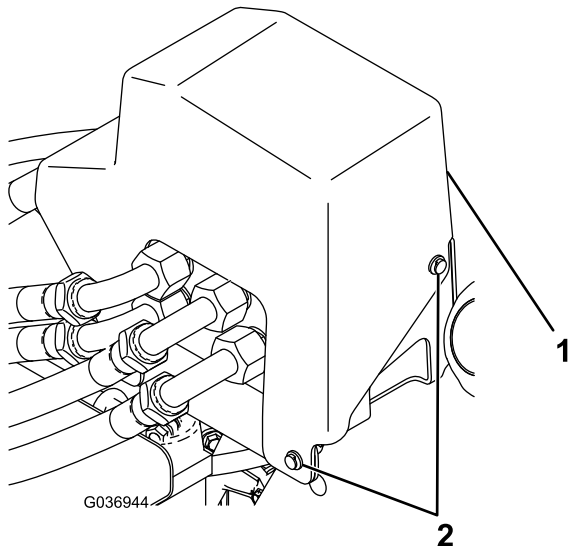

Figure 15
12. Attach the manifold cover to the hydraulic manifold mounting bracket using 4 push fasteners (Figure 15).